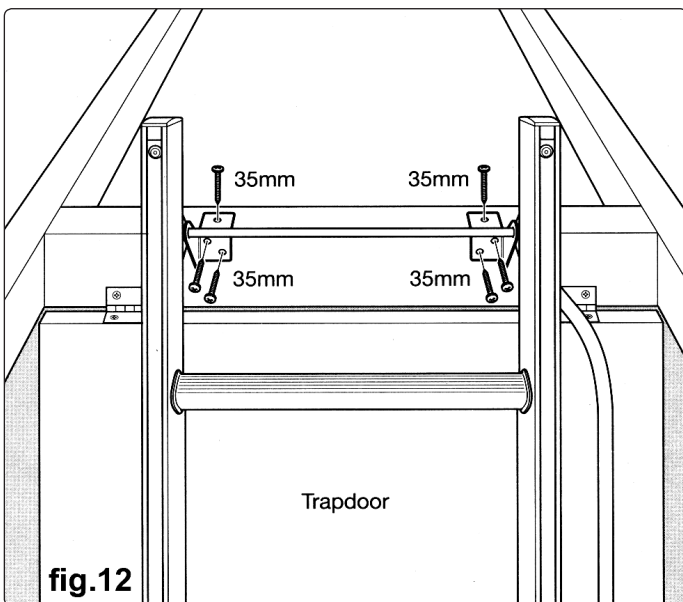

fig.12
- 5.7 Attaching the pivot bar:** (refer to fig.12)